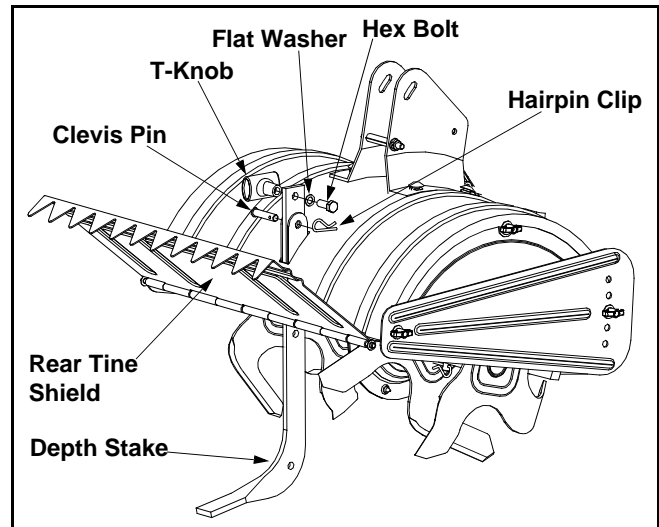

Figure 1
- Unthread the "T" knob from the top of the depth stake and remove the flat washer and hex bolt. Remove the hairpin clip from the clevis pin. See Figure 1.
- Insert hex bolt into the top hole of the depth stake assembly. Place flat washer on the hex bolt and thread "T" knob onto the hex bolt. Tighten securely. See Figure 1.